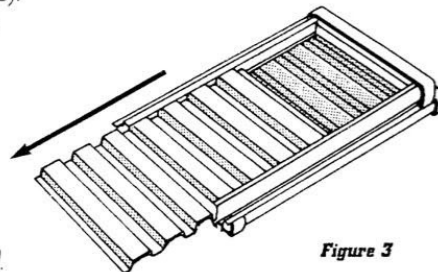

Figure 3
► Pull the old filter toward you and discard (*figure 3*). If this is the first time the filter has been replaced, it will be in three pieces.